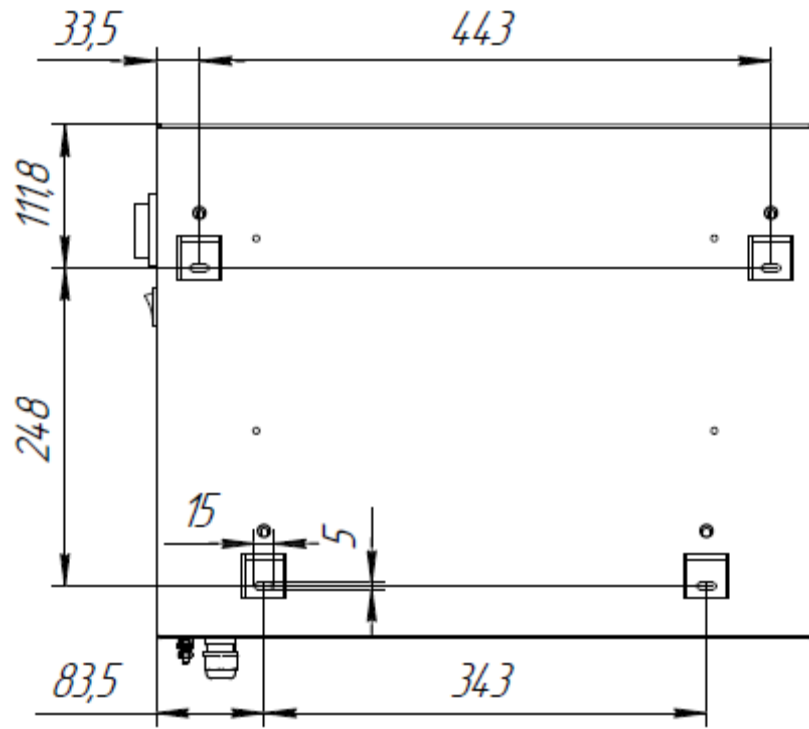

Fig. 2. UT-xxxS. Installation dimensions
3. Special fasteners are provided for installation of the UT-xxxS convection heater. The fasteners are mounted on the vertical bulkhead according to the installation dimensions of the convection heater (refer to fig 2). Then, hang the UT-xxxS on the fasteners and fix it by screws. Firmly fasten the body on the vertical bulkhead and check fastening security by hand.